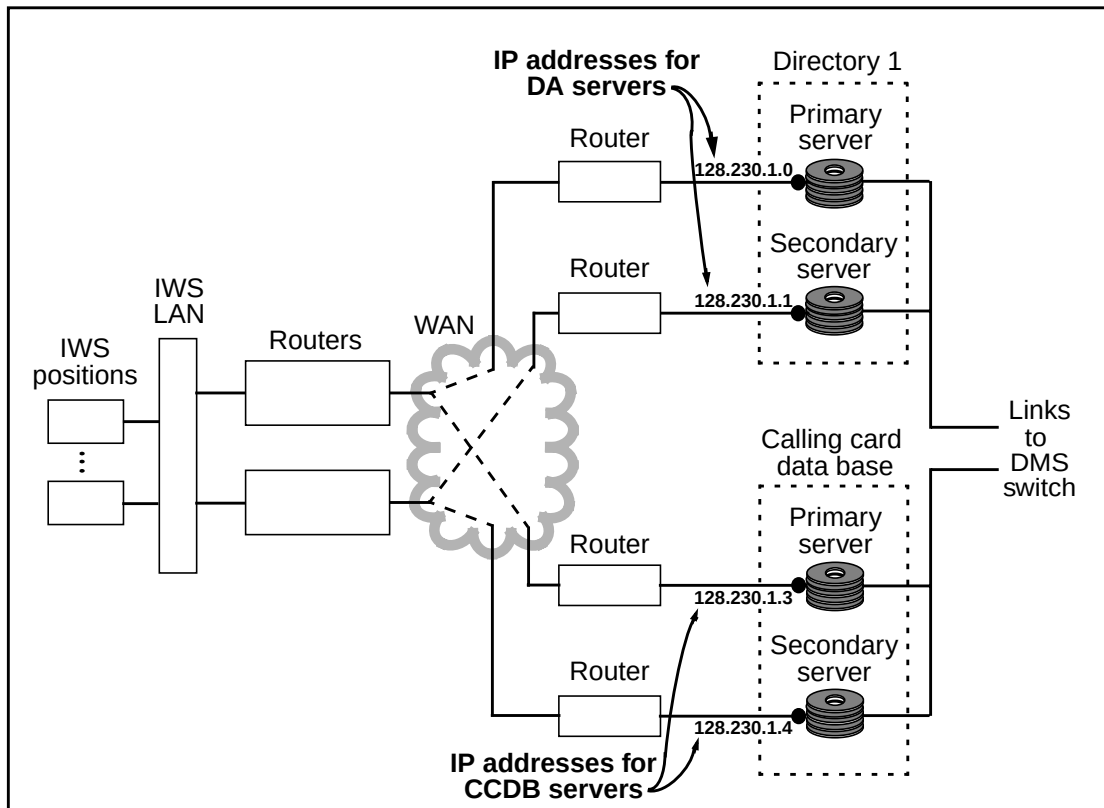

FIGURE 116. IP Addresses for External DA and CCDB Servers
- The Primary and Secondary IP Addresses specify the IP address to the DA and CCDB servers (see Figure 116). The valid range is 0 to 255.255.255.255.